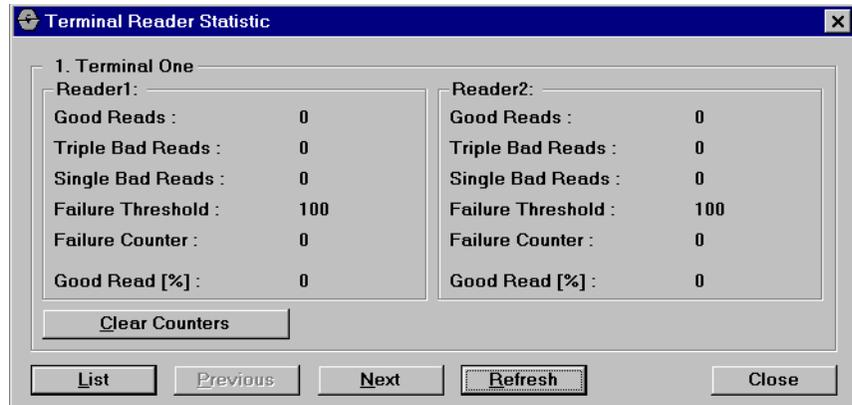

Figure 62: Terminal Reader Statistic Dialog Box
- Double-click a reader in the list to open the Terminal Reader Statistic dialog box (*Figure 62*).